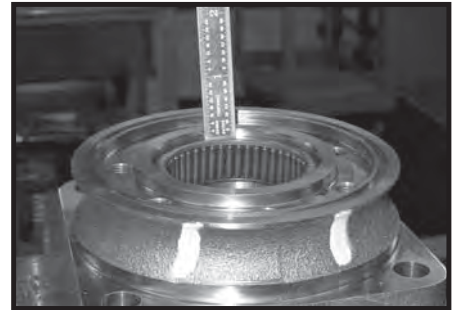

Figure 25
**NOTE: The depth or location of bearing (13) in relation to the housing wear plate surface and the depth or location of bearing (19) in relation to the beginning of bearing counter bore should be measured and noted before removing the bearings. This will facilitate the correct reassembly of new bearings. SEE FIGURE 25.**